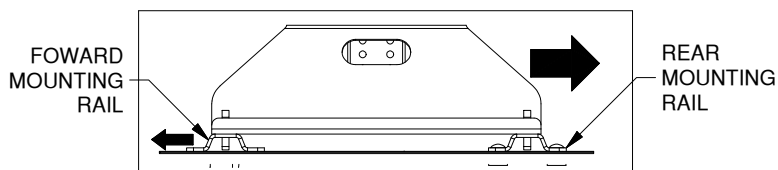

Figure C4: Side view of RV base and mounting rails.
2. **IMPORTANT:** Before drilling forward mounting holes pull the RV base towards the rear of the truck and push the forward rail towards the cab of the truck to correctly space the mounting rails, see figure C4.